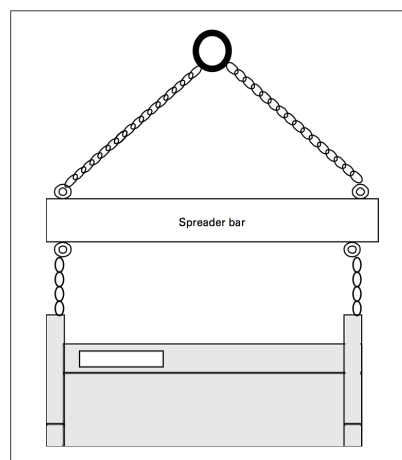

Figure 2.
- 1) Prepare the sling and spanner or spreader according to Figure 2 and Figure 3.